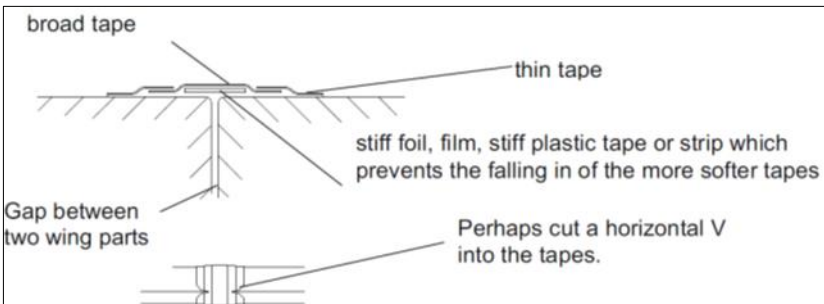

Figure 7-27
- Check that the gaps between the fuselage and wings and between wing sections are correctly bridged. While wiping the wiper cleaning filaments may get caught in the gaps if not covered correctly. A suggested method to cover the gaps between panels is illustrated in Figure 7-27.